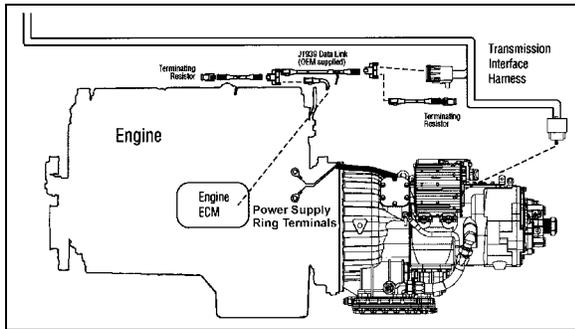

FIGURE 15: EATON TRANSMISSION CONNECTIONS 07066
9. Disconnect main power supply ring terminals and transmission interface harness (Fig. 15).